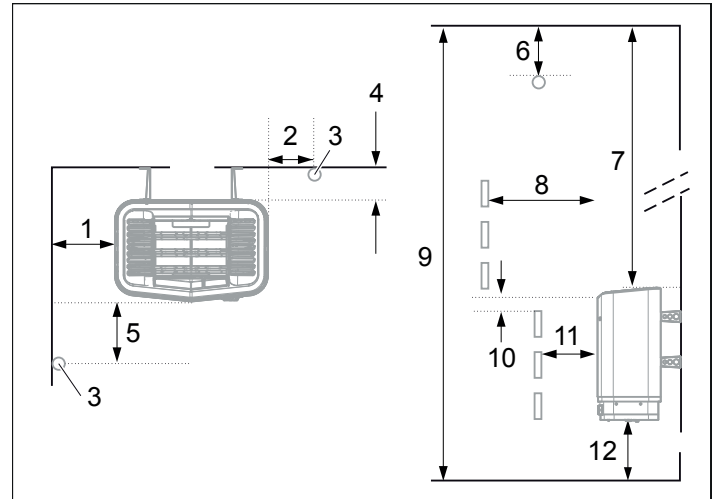
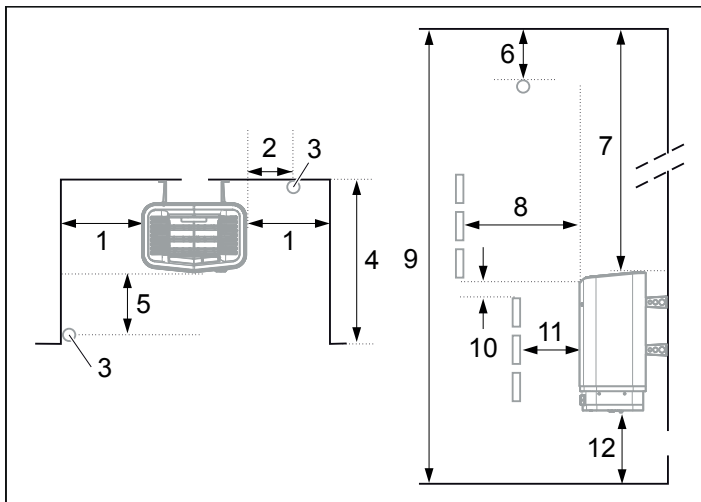

Figure 4: Positioning the heater - normal installation
Figure 6: Positioning the heater - recess installation
- Plan the sensor positioning (see Figure 4 and Figure 6).
- on the same wall as the door (or the side wall if very close to the door wall). The heater may also be placed in a recess (see Figure 6).
- Position the heater at a safe distance from the floor, side walls and interior fittings (see Figure 4).
Position the sensor according to the picture (see Figure 4).
1. Position the heater at a safe distance from the floor, side walls and interior fittings (see Figure 6).
2. Position the sensor according to the picture (see Figure 6).